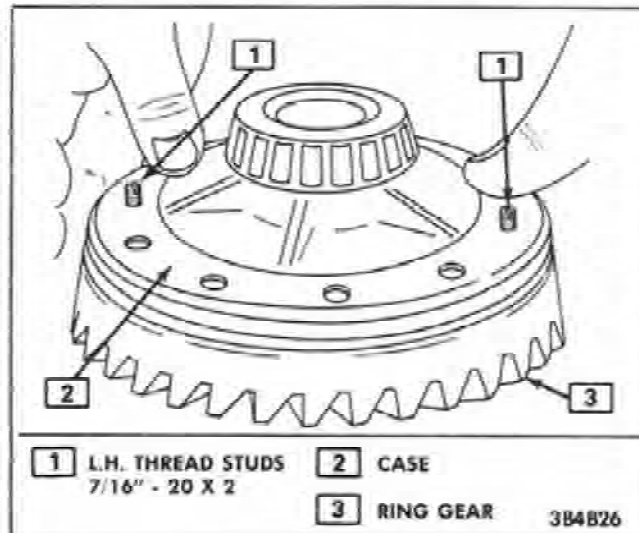

Fig. 26 Installing Ring Gear on Case Assembly
Fig. 26 and 27
4. Ring gear on case using NEW ring gear attaching bolts just snug, see Fig. 26.